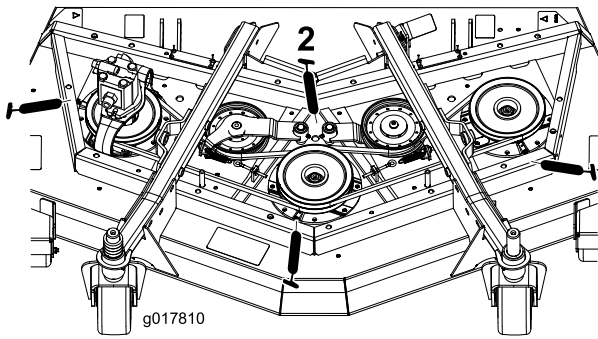

Figure 40
- Spindle shaft bearings (3) (located under the pulley) (Figure 40)
- Idler arm pivot bushings (2) (Figure 40)